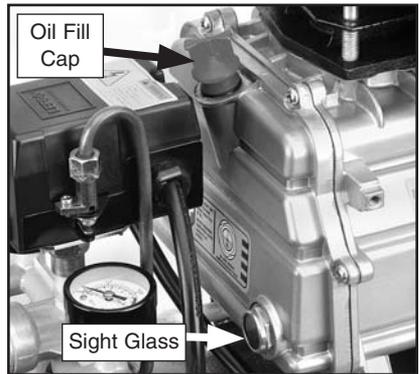

Figure 3. Oil cap and sight glass location.
3. Remove the oil fill cap (**Figure 3**) on top of the crankcase and add air compressor oil into the hole. When full, the oil level should be in the center of the sight glass.